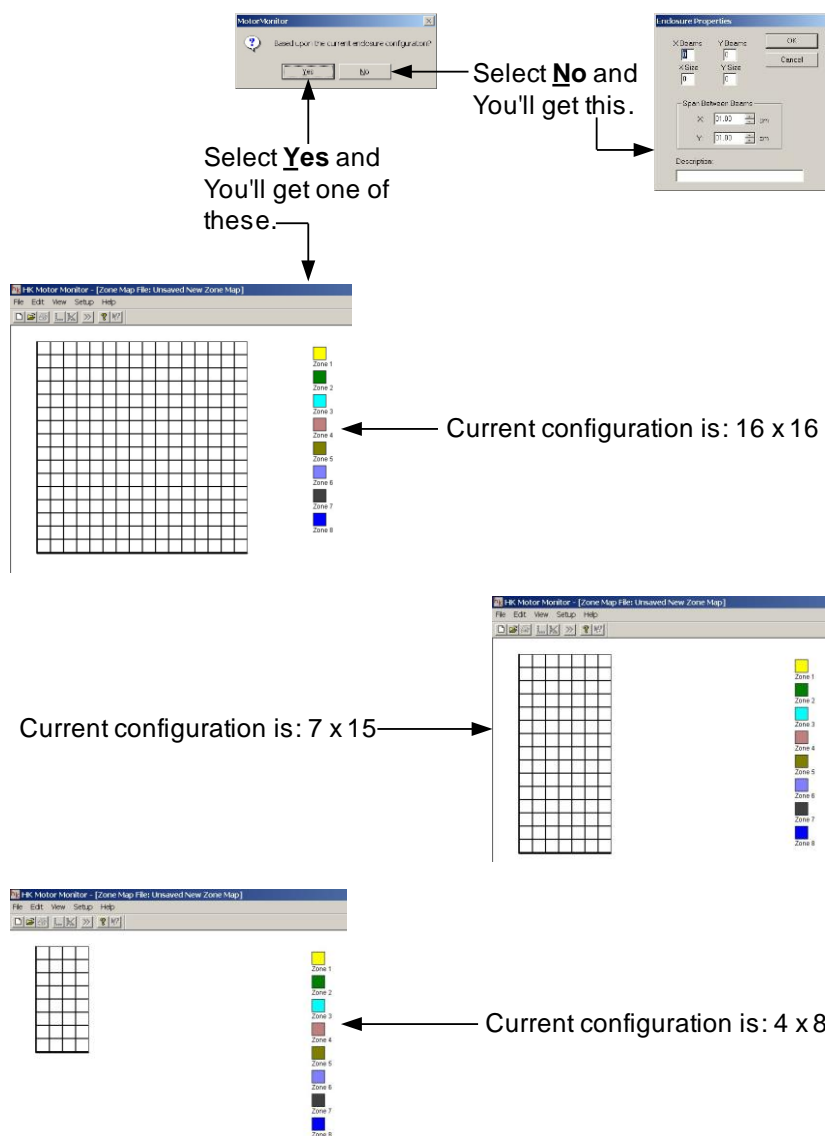

Figure 3-8. Starting a New Zone Map
3.3.3 Creating a New Zone Map To create a new zone map, click on **New**, then **Zone Map** from the **File** menu. Next, you will be asked if you want the map to be based on the current configuration (Figure 3-8). If you have only one configuration, or if the correct configuration is active, then click on **Yes**. The question is asked because there can be more than one configuration type. For example, you might have both a cage rack and a plus maze system on one computer.